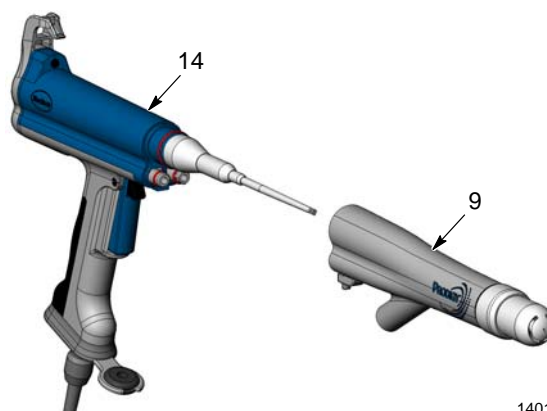

Figure 3 Removing the Adapter
3. See Figure 3. Pull the adapter straight off the gun body (14).
5. See Figures 3 and 2. Install the adapter on the gun body. Tighten the set screw.